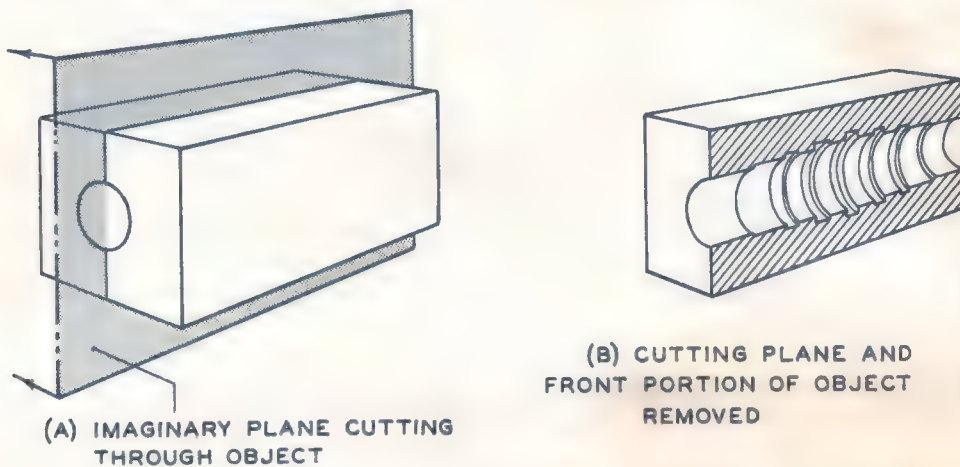

FIG. 85 CUTTING PLANE AND ITS APPLICATION
To get this sectional view, an imaginary cutting plane is passed through the object as shown in Figure 85 at (A) and a portion is removed as at (B). The direction and surface through which the cutting plane passes is very simply represented on the drawing by a cutting plane line. The exposed surfaces, which have been cut through, are further identified by a number of slant lines called "section" or "cross-hatch" lines. Where the cutting plane passes completely through the object, the sectional view is called a "full section".